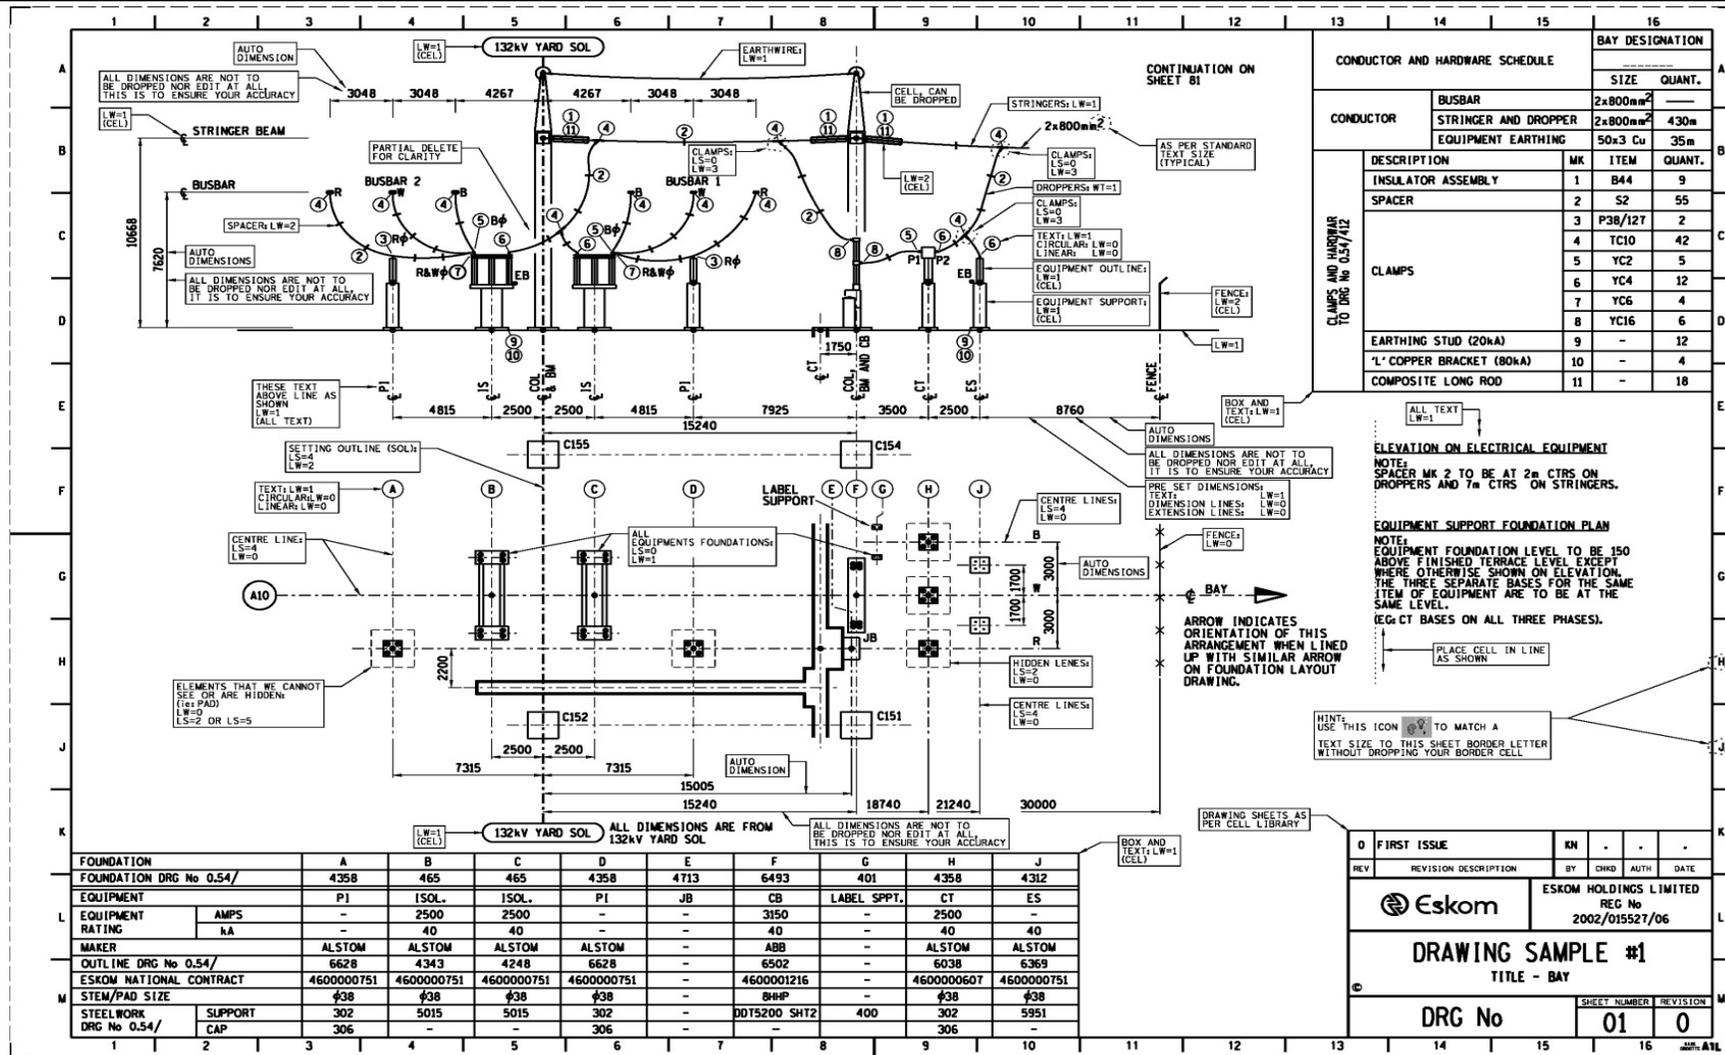

Figure 9: Bay Layout Drawing Guideline
- 12) The required text heights, widths together with the information required to create this drawing are shown in Figures 9 and 10 below.